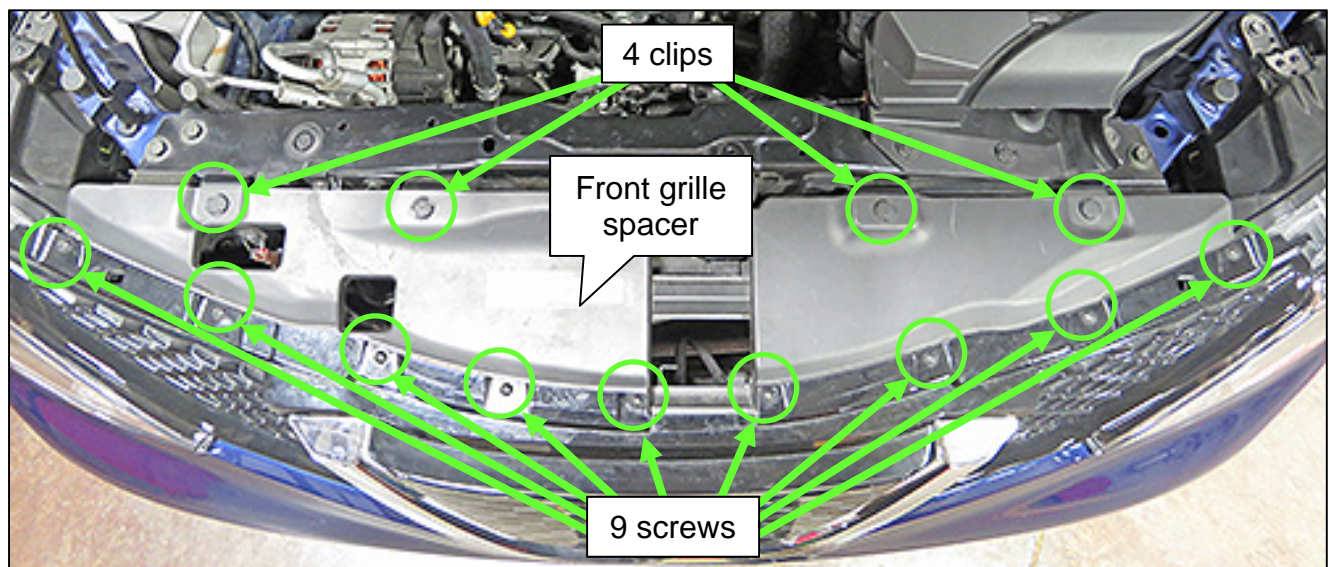

Figure 3
- Remove the front grille spacer from the vehicle (see Figure 3).